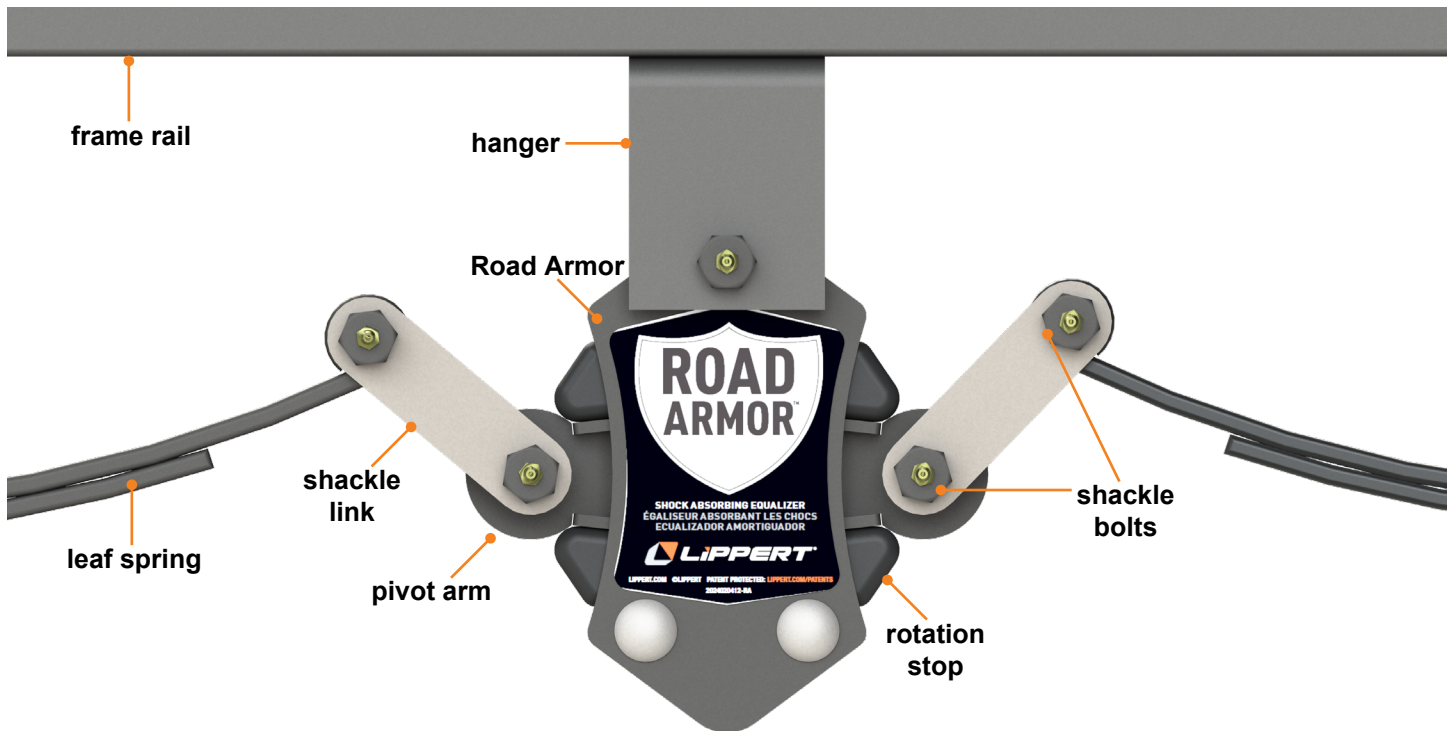

Fig.4
NOTE: Support framework in accordance with the manufacturer's recommendations. Please reference Fig.4 for the following procedural steps.
2. Install the equalizer bolt (Fig.4) through the first bracket of the hanger, then through the topmost bronze bushing of the Road Armor equalizer and, finally, through the second bracket of the hanger.
6. Using shackle bolts and nuts, attach the new shackle links (Fig.4) to the Road Armor pivot arm bushings and the leaf springs.